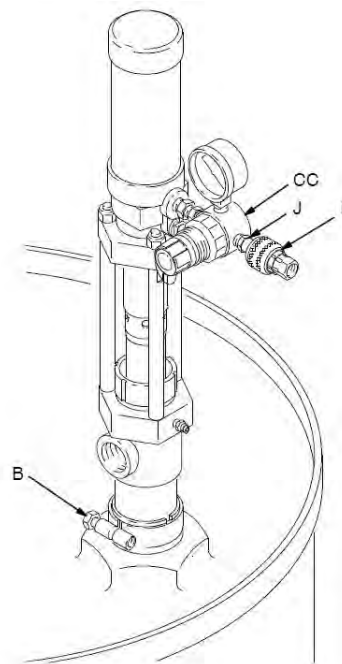
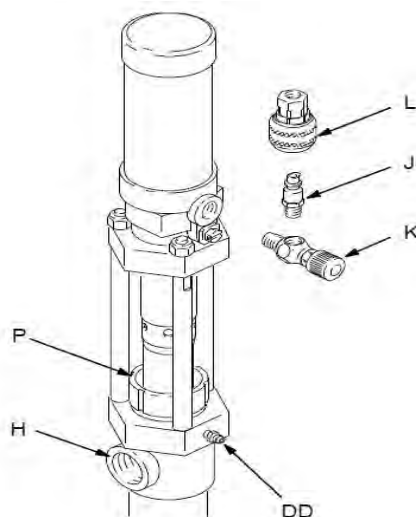

FIG. 3
FIG. 5
Most models are supplied with a needle-type air control valve (K) at the pump air inlet. Model 226951 is equipped with an air regulator kit (CC) instead (see FIG. 3). All models are supplied with an air line quick disconnect coupler (L) to connect the air line to the pump and accessories.
With the air valve (K) or regulator (CC) closed, turn on the air supply and connect the air line coupler (L). See FIG. 3 or FIG. 5. Make sure all dispensing valves are open.
Fill the wet-cup (P) 1/2 full of Graco Throat Seal Liquid (TSL) or compatible solvent and keep it 1/2 full to keep fluid from drying on the displacement rod and damaging pump throat packings. See FIG. 5.
Lubricate the throat packings frequently when you are pumping a non-lubricating fluid, or are shutting down for more than a few days. Some pumps have a grease fitting (DD) for this purpose. See FIG. 5.
Periodically, check the tightness of the packing nut (P). Relieve the pressure, then tighten enough to prevent leakage; no tighter. See FIG. 5. If the leakage can not be stopped, change the packings to prevent exposure to the fluid being pumped.